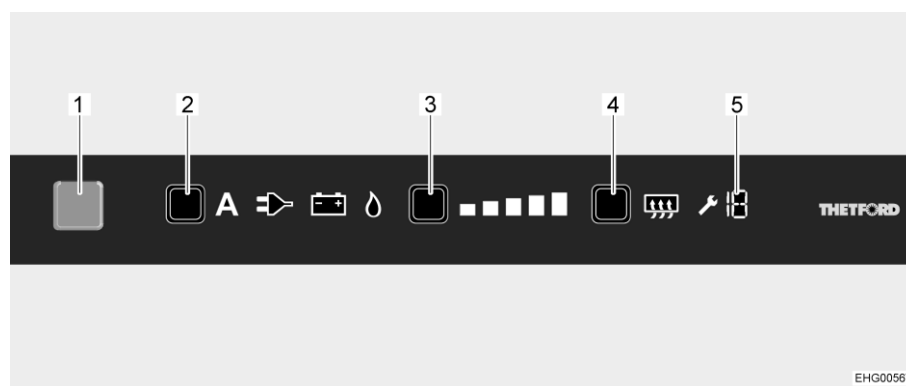

Fig. 177 Operating controls
When turned on the refrigerator automatically selects the thermostat position selected last. This setting can be adjusted manually by using the cooling level button (Fig. 177,3). The illuminated bars of the cooling level indicator show the selected thermostat position. The refrigerating temperature for all three types of energy is set with the cooling level button. It takes a few hours till the refrigerator reaches its normal operating temperature. When changing over the operating mode the thermostat setting will be maintained. The refrigerating temperature is retained regardless of the type of energy being used.
- Press and hold the On/Off button (Fig. 177,1) for 1 second. Button lights up blue. To save energy, after approximately 10 seconds the display is dimmed.
- Press the power selection button (Fig. 177,2) repeatedly until the desired energy source has been selected.
- Press the cooling level button (Fig. 177,3) repeatedly until the desired cooling level has been selected. The current cooling level is indicated by illuminated bars.
- Press and hold the On/Off button (Fig. 177,1) for about 2 seconds. All lights go out. Refrigerator is switched off.